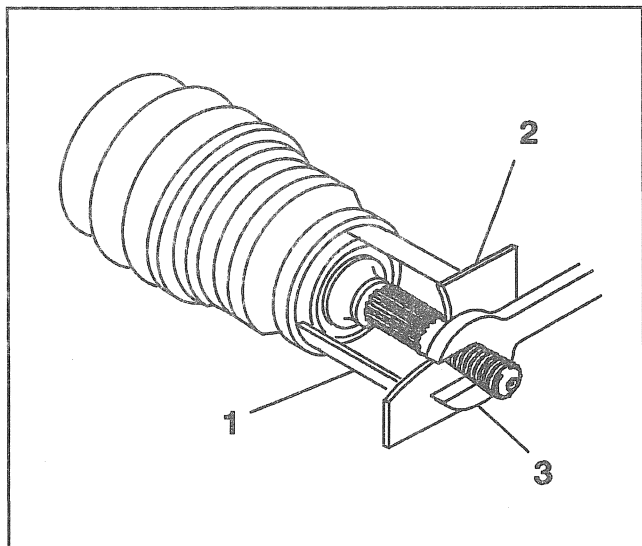

Figure 52—Installing Outer Deflector Ring
- Using a (1) 3-inch pipe coupling (K1 and K2) or 4-inch pipe coupling (K3), a (2) fabricated sheet metal sleeve, and a (3) M24 x 2.0 nut, as shown in (Figure 52), tighten nut until deflector bottoms against shoulder of C/V outer race.